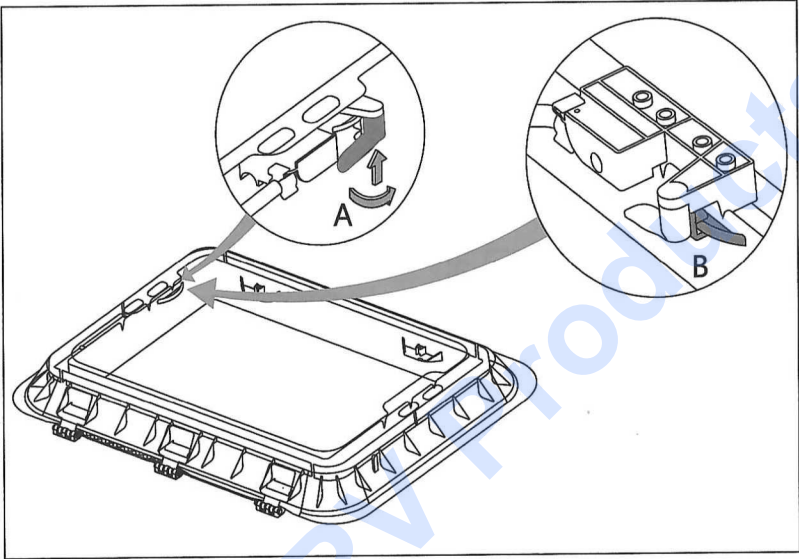

Figure 5
1. Press the handle button and rotate the handle to 90° (operation A) (see Figure 5).